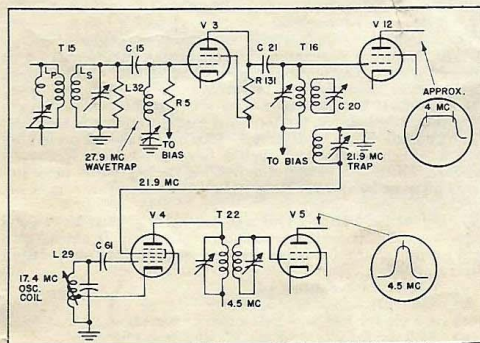

Fig. 4. Video and Audio I-F Amplifier
2. VIDEO AND AUDIO I-F AMPLIFIERS (SEE FIGURE 4)—The video i-f amplifier consists of a three-stage band-pass amplifier using three Type 6AC7 tubes. The transformers, T15, T17, and 18, are overcoupled and then loaded with resistance to give adequate (approx 4 mc) band-pass frequency characteristic. A series tuned trap consisting of L32, C127 and C126 tuned to 27.9 mc is connected in the 1st i-f amplifier grid circuit to provide rejection of the adjacent channel sound. T16 is a broad band, single tuned inductance with two 21.9 mc traps coupled to it, which are used to provide rejection of the channel audio. A series tuned 21.9 mc trap is used at the diode stage (T18).